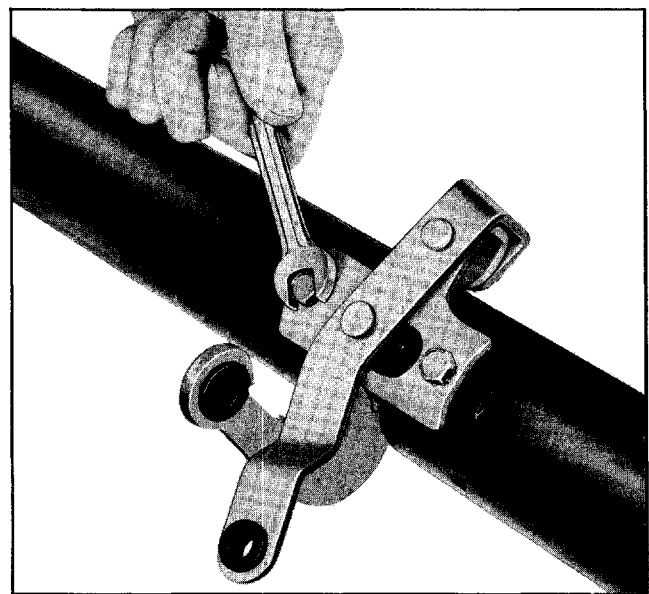

Fig. 7-11 Lower Gearshift Lever
13. On Synchro-Mesh cars remove gearshift selector lever and bracket by removing two retaining screws (Fig. 7-11). When selector lever and bracket assembly have been removed, pivot pin can be pulled out to disassemble lever from bracket.